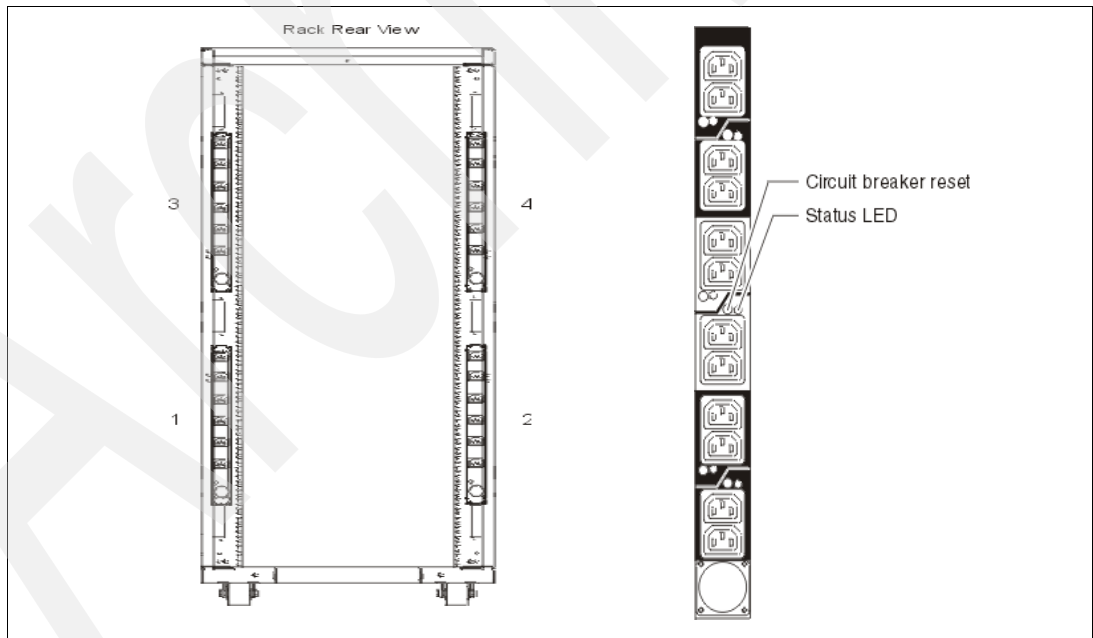

Figure 1-6 PDU placement and PDU view
- ▶ Up to four power distribution units (PDUs) can be mounted in the PDU bays (see Figure 1-6 on page 21), but others can fit inside the rack. See 1.12.7, “The AC power distribution unit and rack content” on page 21.
Four PDUs can be mounted vertically in the back of the T00 and T42 racks. See Figure 1-6 for the placement of the four vertically mounted PDUs. In the rear of the rack, two additional PDUs can be installed horizontally in the T00 rack and three in the T42 rack. The four vertical mounting locations will be filled first in the T00 and T42 racks. Mounting PDUs horizontally consumes 1 U per PDU and reduces the space available for other racked components. When mounting PDUs horizontally, a good practice is to use fillers in the EIA units occupied by these PDUs to facilitate proper air-flow and ventilation in the rack.